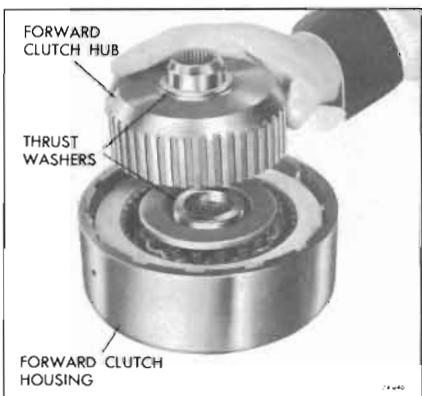

Figure 74-646
3. Remove the forward clutch hub and thrust washers. See Figure 74-646.